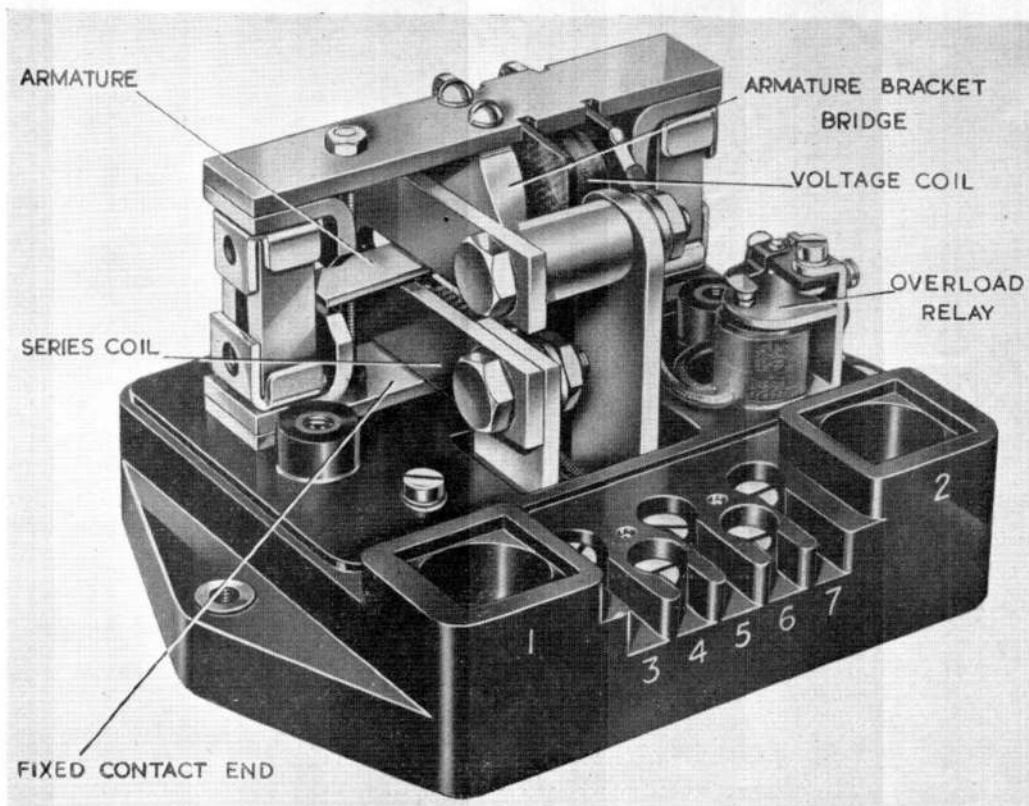

Fig. 2. View of cut-out, with cover removed
6. A more detailed view of the unit is given in fig. 2, where the general arrangement of components is shown. The armature is pivoted above the voltage coil, within the magnet system, and is enclosed by the horse-shoe shaped series coil. In this illustration an overload relay is shown. In certain units within the series, this small relay is omitted.